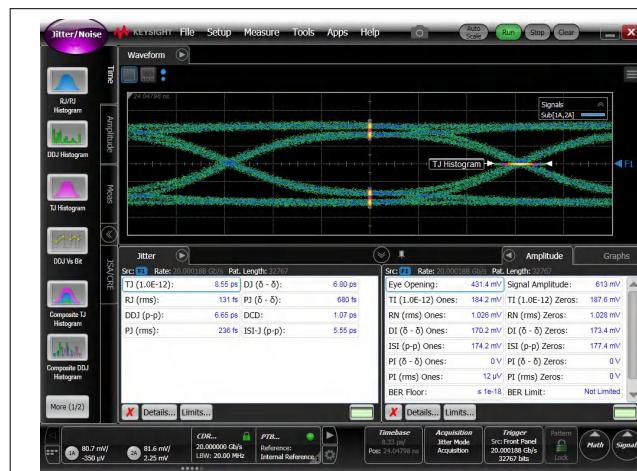
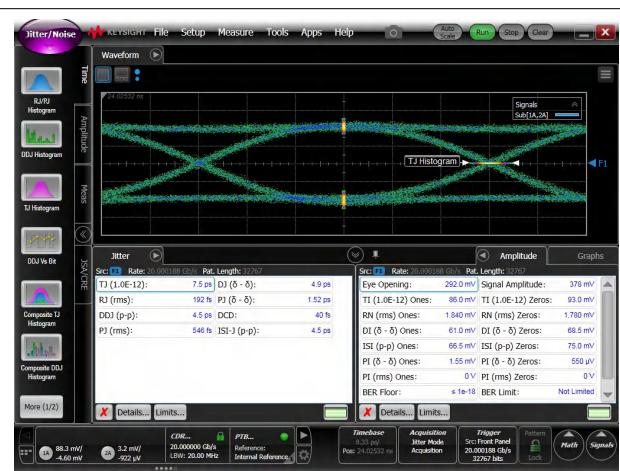

Figure 5-3. Through Baseline Calibration Trace Setup for 20Gbps
Figure 5-4. Through TDP2044 for 20Gbps
Figure 5-3 and Figure 5-4 show eye diagrams at 20Gbps that compare jitter through calibration traces (left), and jitter through TDP2044 (right) at TI evaluation boards with minimal channels. The eye diagrams illustrate that TDP2044 adds very little random jitter (RJ).